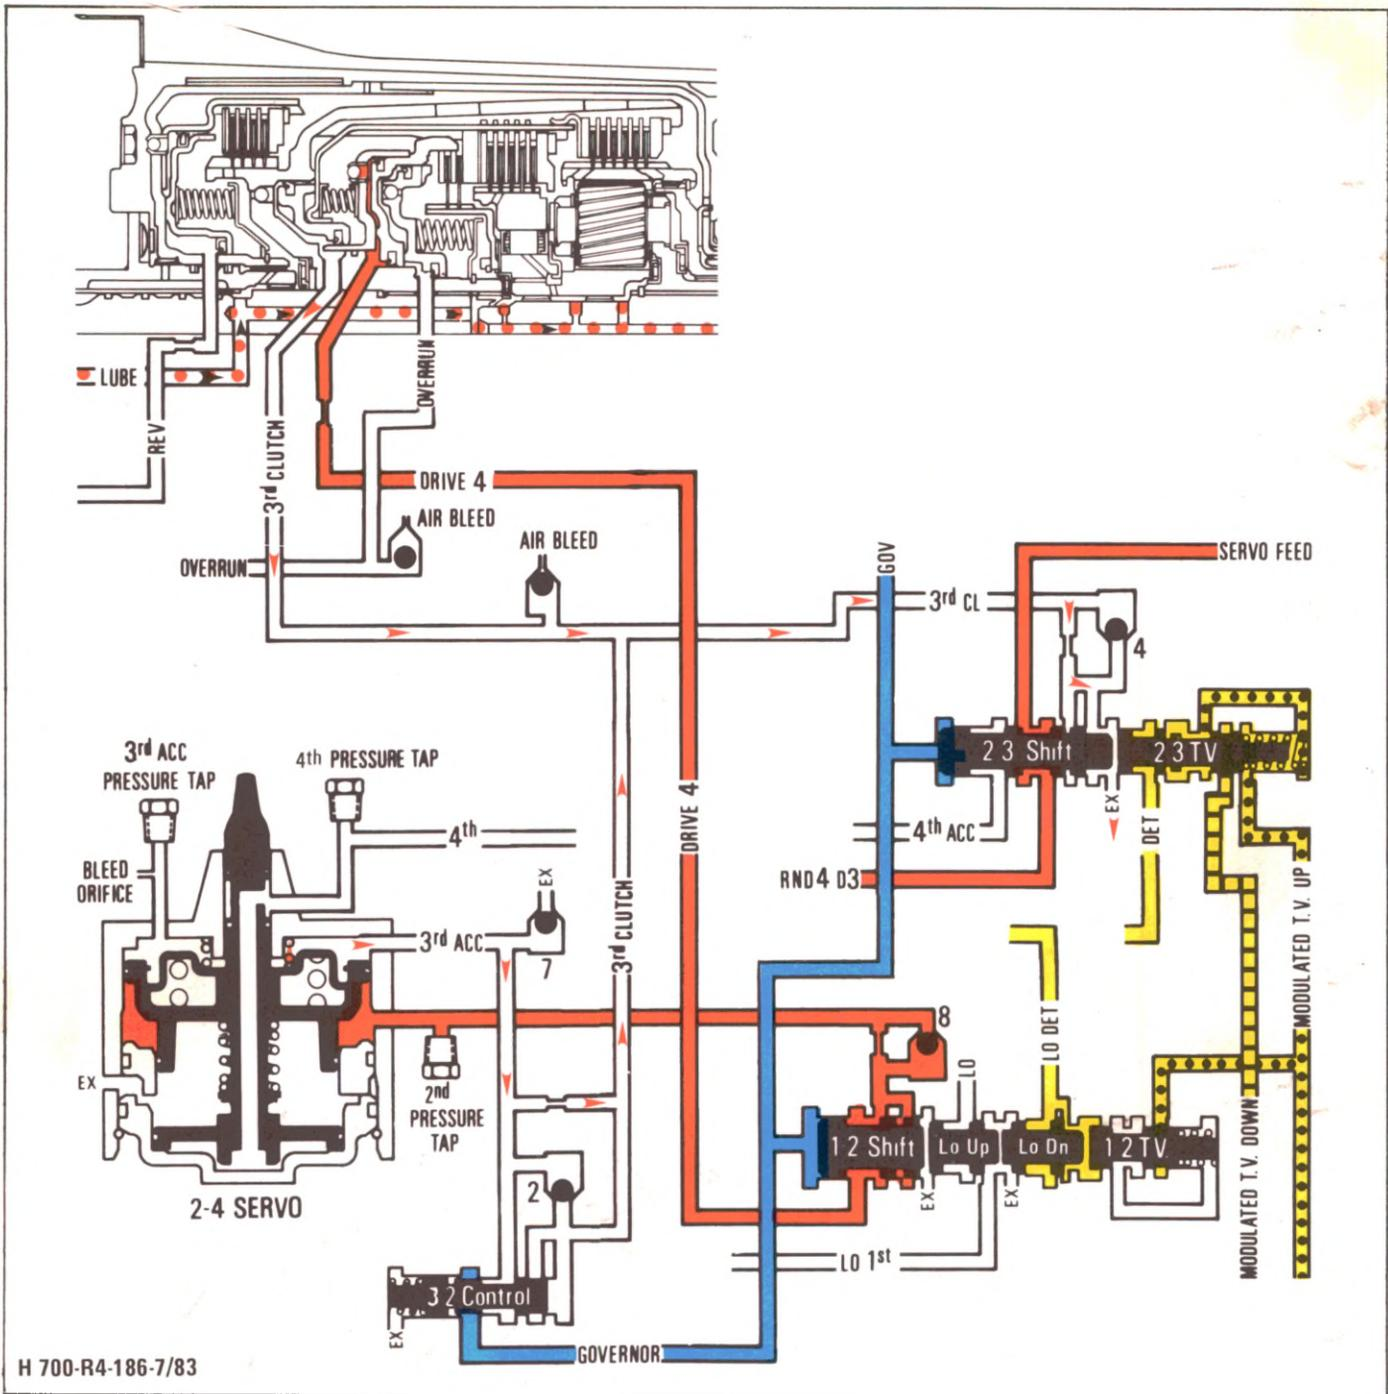

Figure 66 - Detent Downshift Timing (High Speed)
cumulator check ball (2) and flows through another orifice, controlling the apply of the 2-4 band (Fig. 66, pg. 60).